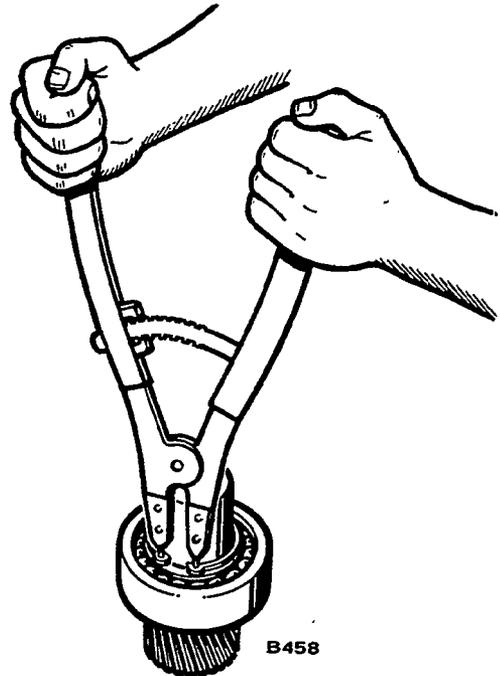

FIGURE 68. DRIVE PINION SHAFT BEARING: SNAP RING REMOVAL
16. Remove snap ring from bearing on drive pinion shaft, Figure 68.